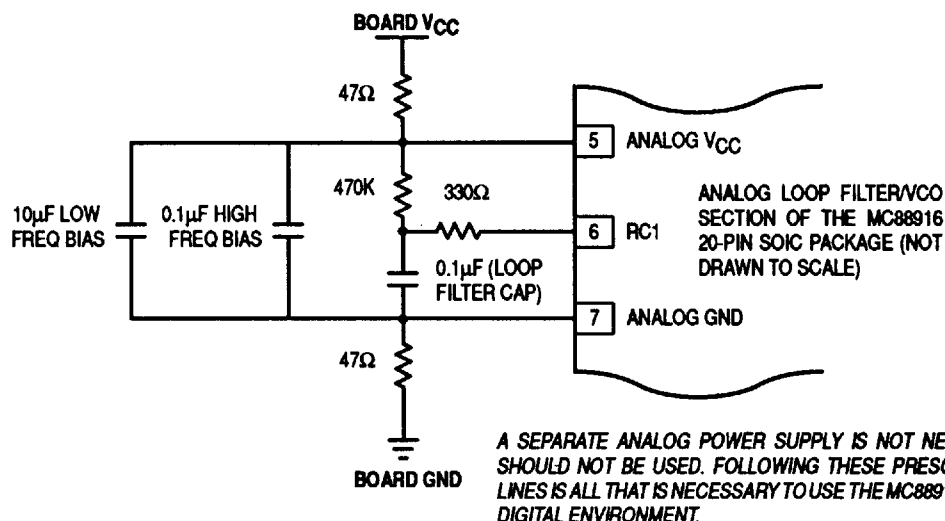

Figure 7. Recommended Loop Filter and Analog Isolation Scheme for the MC88916
- Figure 7 shows a loop filter and analog isolation scheme which will be effective in most applications. The following guidelines should be followed to ensure stable and jitter-free operation:
If good bypass techniques are used on a board design near components which may cause digital V_{CC} and ground noise, the above described V_{CC} step deviations should not occur at the 88916's digital V_{CC} supply. The purpose of the bypass filtering scheme shown in Figure 7
- In addition to the bypass capacitors used in the analog filter of Figure 7, there should be a 0.1 μF bypass capacitor between each of the other (digital) four V_{CC} pins and the board ground plane. This will reduce output switching noise caused by the 88916 outputs, in addition to reducing potential for noise in the 'analog' section of the chip. These bypass capacitors should also be tied as close to the 88916 package as possible.